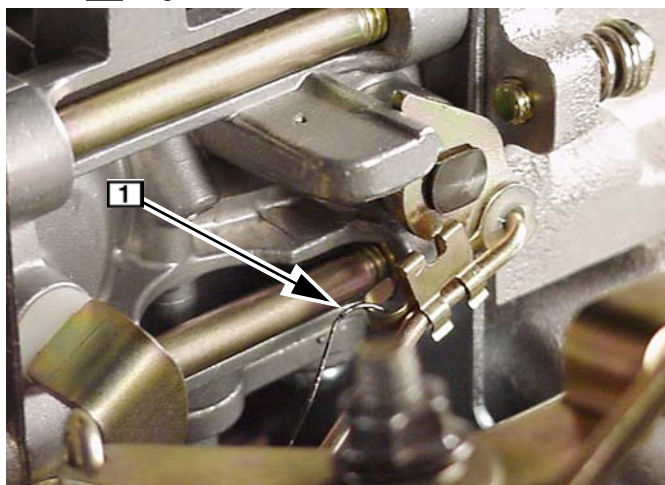

Fig. 43
2. Disconnect throttle link and spring at carburetor **1**, Fig. 43.